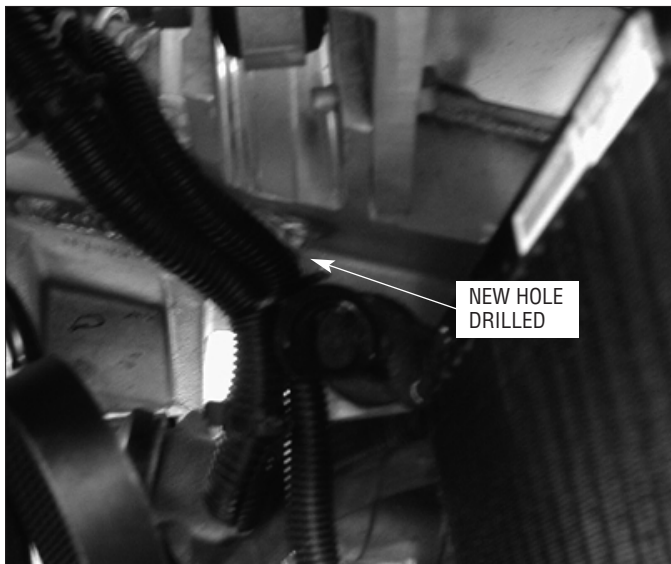

Fig. 6-5
- F. Relocate the wiring harness that runs underneath the supercharger by drilling a new hole and attaching the harness with a ZipTie. (See Fig. 6-5.)